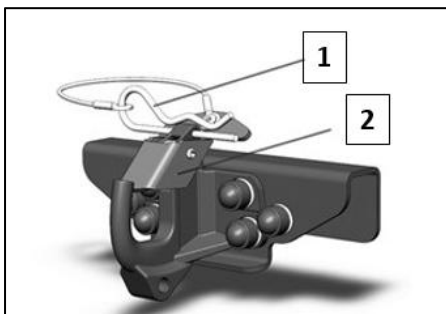

Fig. 29
1. Remove the fixed cotter pin (Pose 1, Figure 29).
3. Press the earring and start it with the fuse (posture 2, Figure 29).